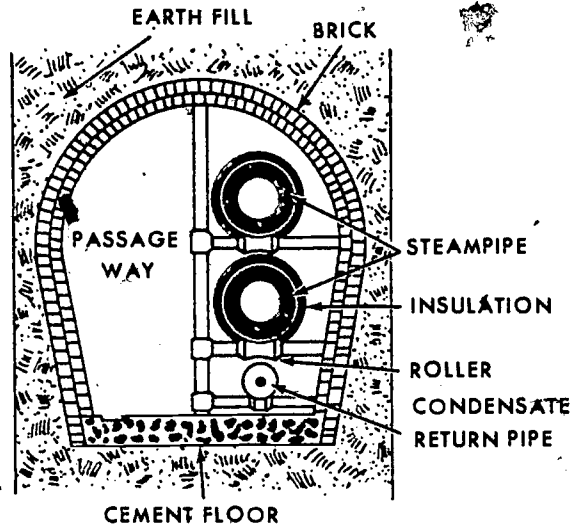

Figure 47. A typical utilidor.
6. **Utilidor type.** The utilidors or tunnels of the utilidor type of system are constructed of brick or concrete. The size and shape of the utilidor usually depends upon the number of distribution pipes to be accommodated and the depth the utilidor must go into the ground. Manholes, sometimes doors, are installed to provide access to the utilidor (tunnel). A typical utilidor is shown in figure 47. The utilidor is usually constructed so that the steam and condensate return lines can be laid along one side of the tunnel on pipe hangers or anchors. This is usually done with the type of pipe hanger with rollers that provides for the free movement required by the expansion of the pipe that occurs. The other side of the utilidor should be a walkway that provides easy access to lines when you are inspecting and doing maintenance.